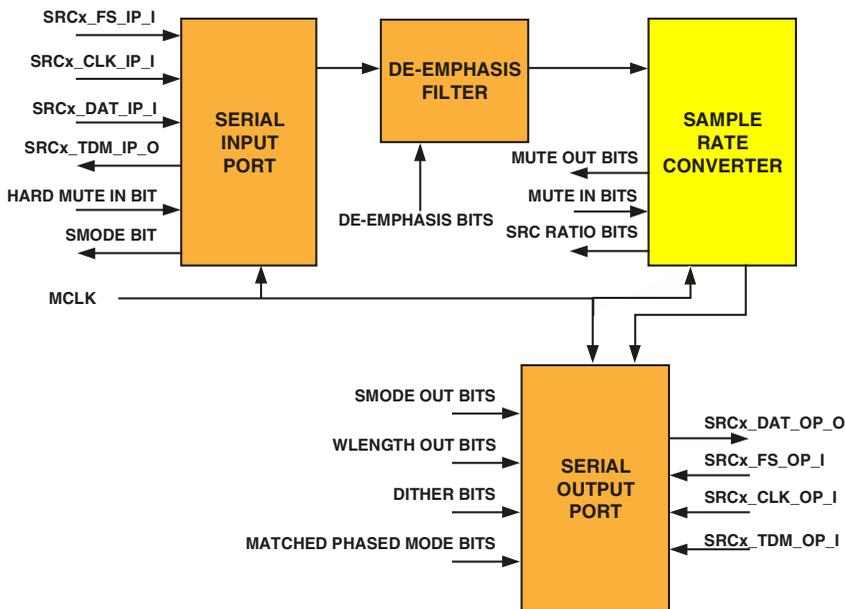
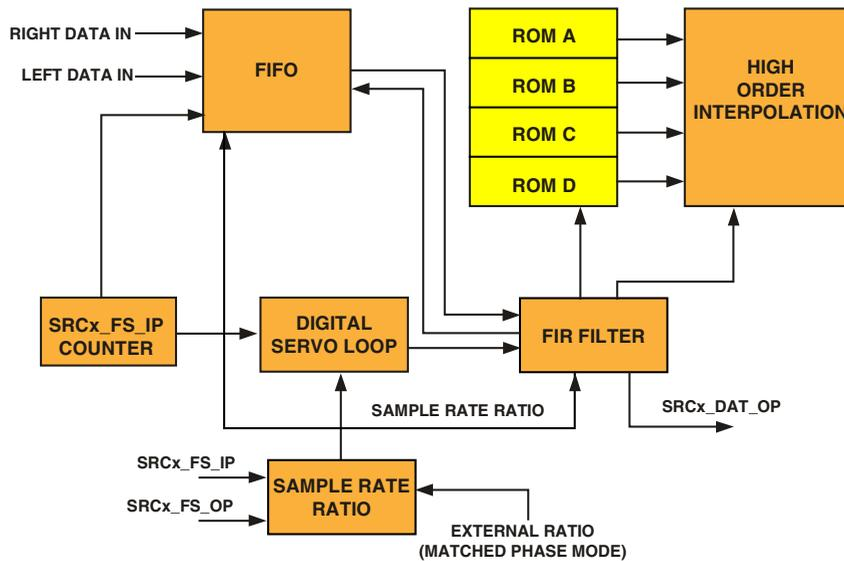

Figure 12-1. Sample Rate Converter Block Diagram
Figure 12-2. Sample Rate Converter Architecture
Figure 12-1 shows a top level block diagram of the SRC module and Figure 12-2 shows architecture details. The sample rate converter's FIFO block adjusts the left and right input samples and stores them for the FIR filter's convolution cycle. The SRCx\_FS\_IP counter provides the write address to the FIFO block and the ramp input to the digital-servo loop. The ROM stores the coefficients for the FIR filter convolution and performs a high-order interpolation between the stored coefficients. The sample rate ratio block measures the sample rate by dynamically altering the ROM coefficients and scaling the FIR filter length and input data. The digital-servo loop automatically tracks the SRCx\_FS\_IP and
- ❗ The master clock input (MCLK) shown in Figure 12-1 is peripheral clock (PCLK) divided by 4. Therefore,  $MCLK = PCLK \div 4$ .